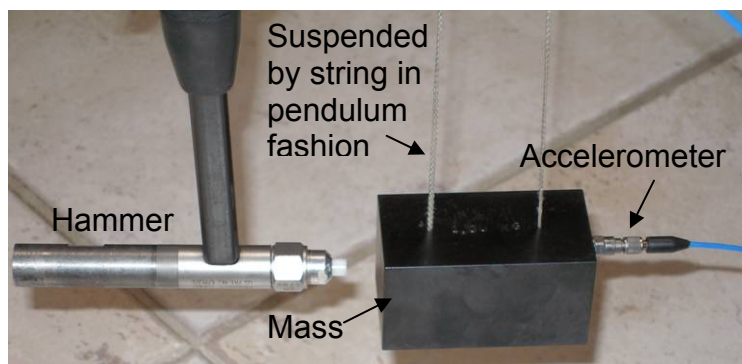

Figure 62: Sensor calibrations setup
The experimental setup needs to allow the application of a force to a mass and then measure the acceleration of that mass. One of the most important parts of the setup is to suspend the mass such that it is free to swing in a pendulum fashion, see Figure 62.
Step 1: Suspend the mass from a string as shown in Figure 62. The longer the length of the string the better.